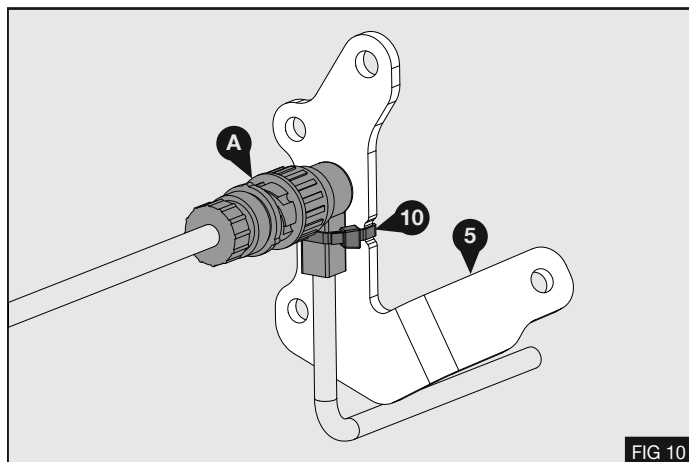

FIG 10
- Secure the fan loom plug (A) to the rear of support plate (5) using cable tie (10) as shown opposite – Fig 10